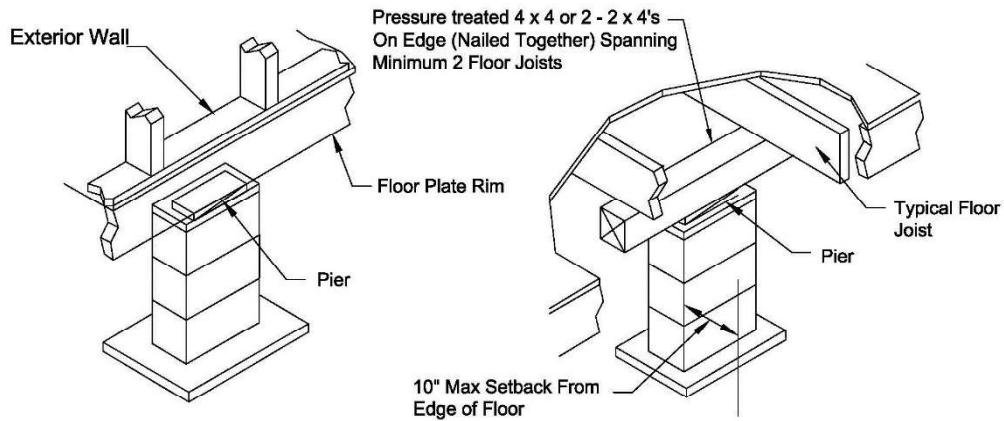

Figure 14. Perimeter supports
- Recess perimeter blocking supports and perimeter point load supports no more than 10 inches from the edge of the floor with added support as shown in **Figure 14**.